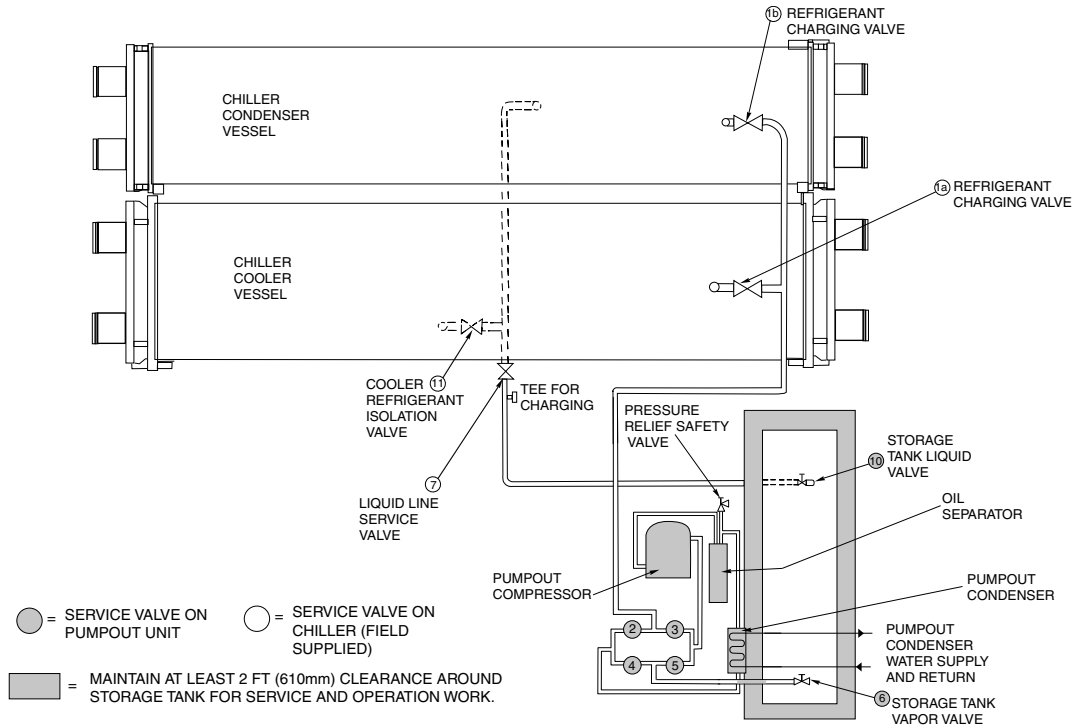

Fig. 40 — Typical Optional Pumpout System Piping Schematic with Storage Tank
3. Once the pressures have equalized, the cooler isolation valve, the condenser isolation valve, and the hot gas isolation valve may now be opened. Refer to Fig. 40 and 41 for the location of the valves.
2. Open valve 4 on the pumpout unit and open valves 1a and 1b on the chiller cooler and condenser, Fig. 40 and 41. Slowly open valve 2 on the pumpout unit to equalize the pressure. This process takes approximately 15 minutes.
If the chiller has been shipped with a holding charge, the refrigerant is added through the pumpout charging connection (Fig. 40 and 41, valve 1b). First evacuate the nitrogen holding charge from the chiller vessels. Charge the refrigerant as a gas until the system pressure exceeds 35 psig (241 kPa) for HFC-134a or 39 psig (268 kPa) for R-513A. After the chiller is beyond this pressure the refrigerant should be charged as a liquid until all the recommended refrigerant charge has been added. The charging valve (Fig. 40 and 41, valve 7) can be used to charge liquid to the cooler if the